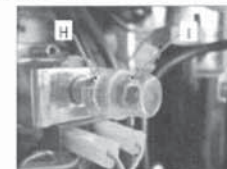

Figure 15.6
- Remove the protection cap I (Fig. 15.6) from the mechanical pressure adjustment components levering with a flat screwdriver in the slots H.